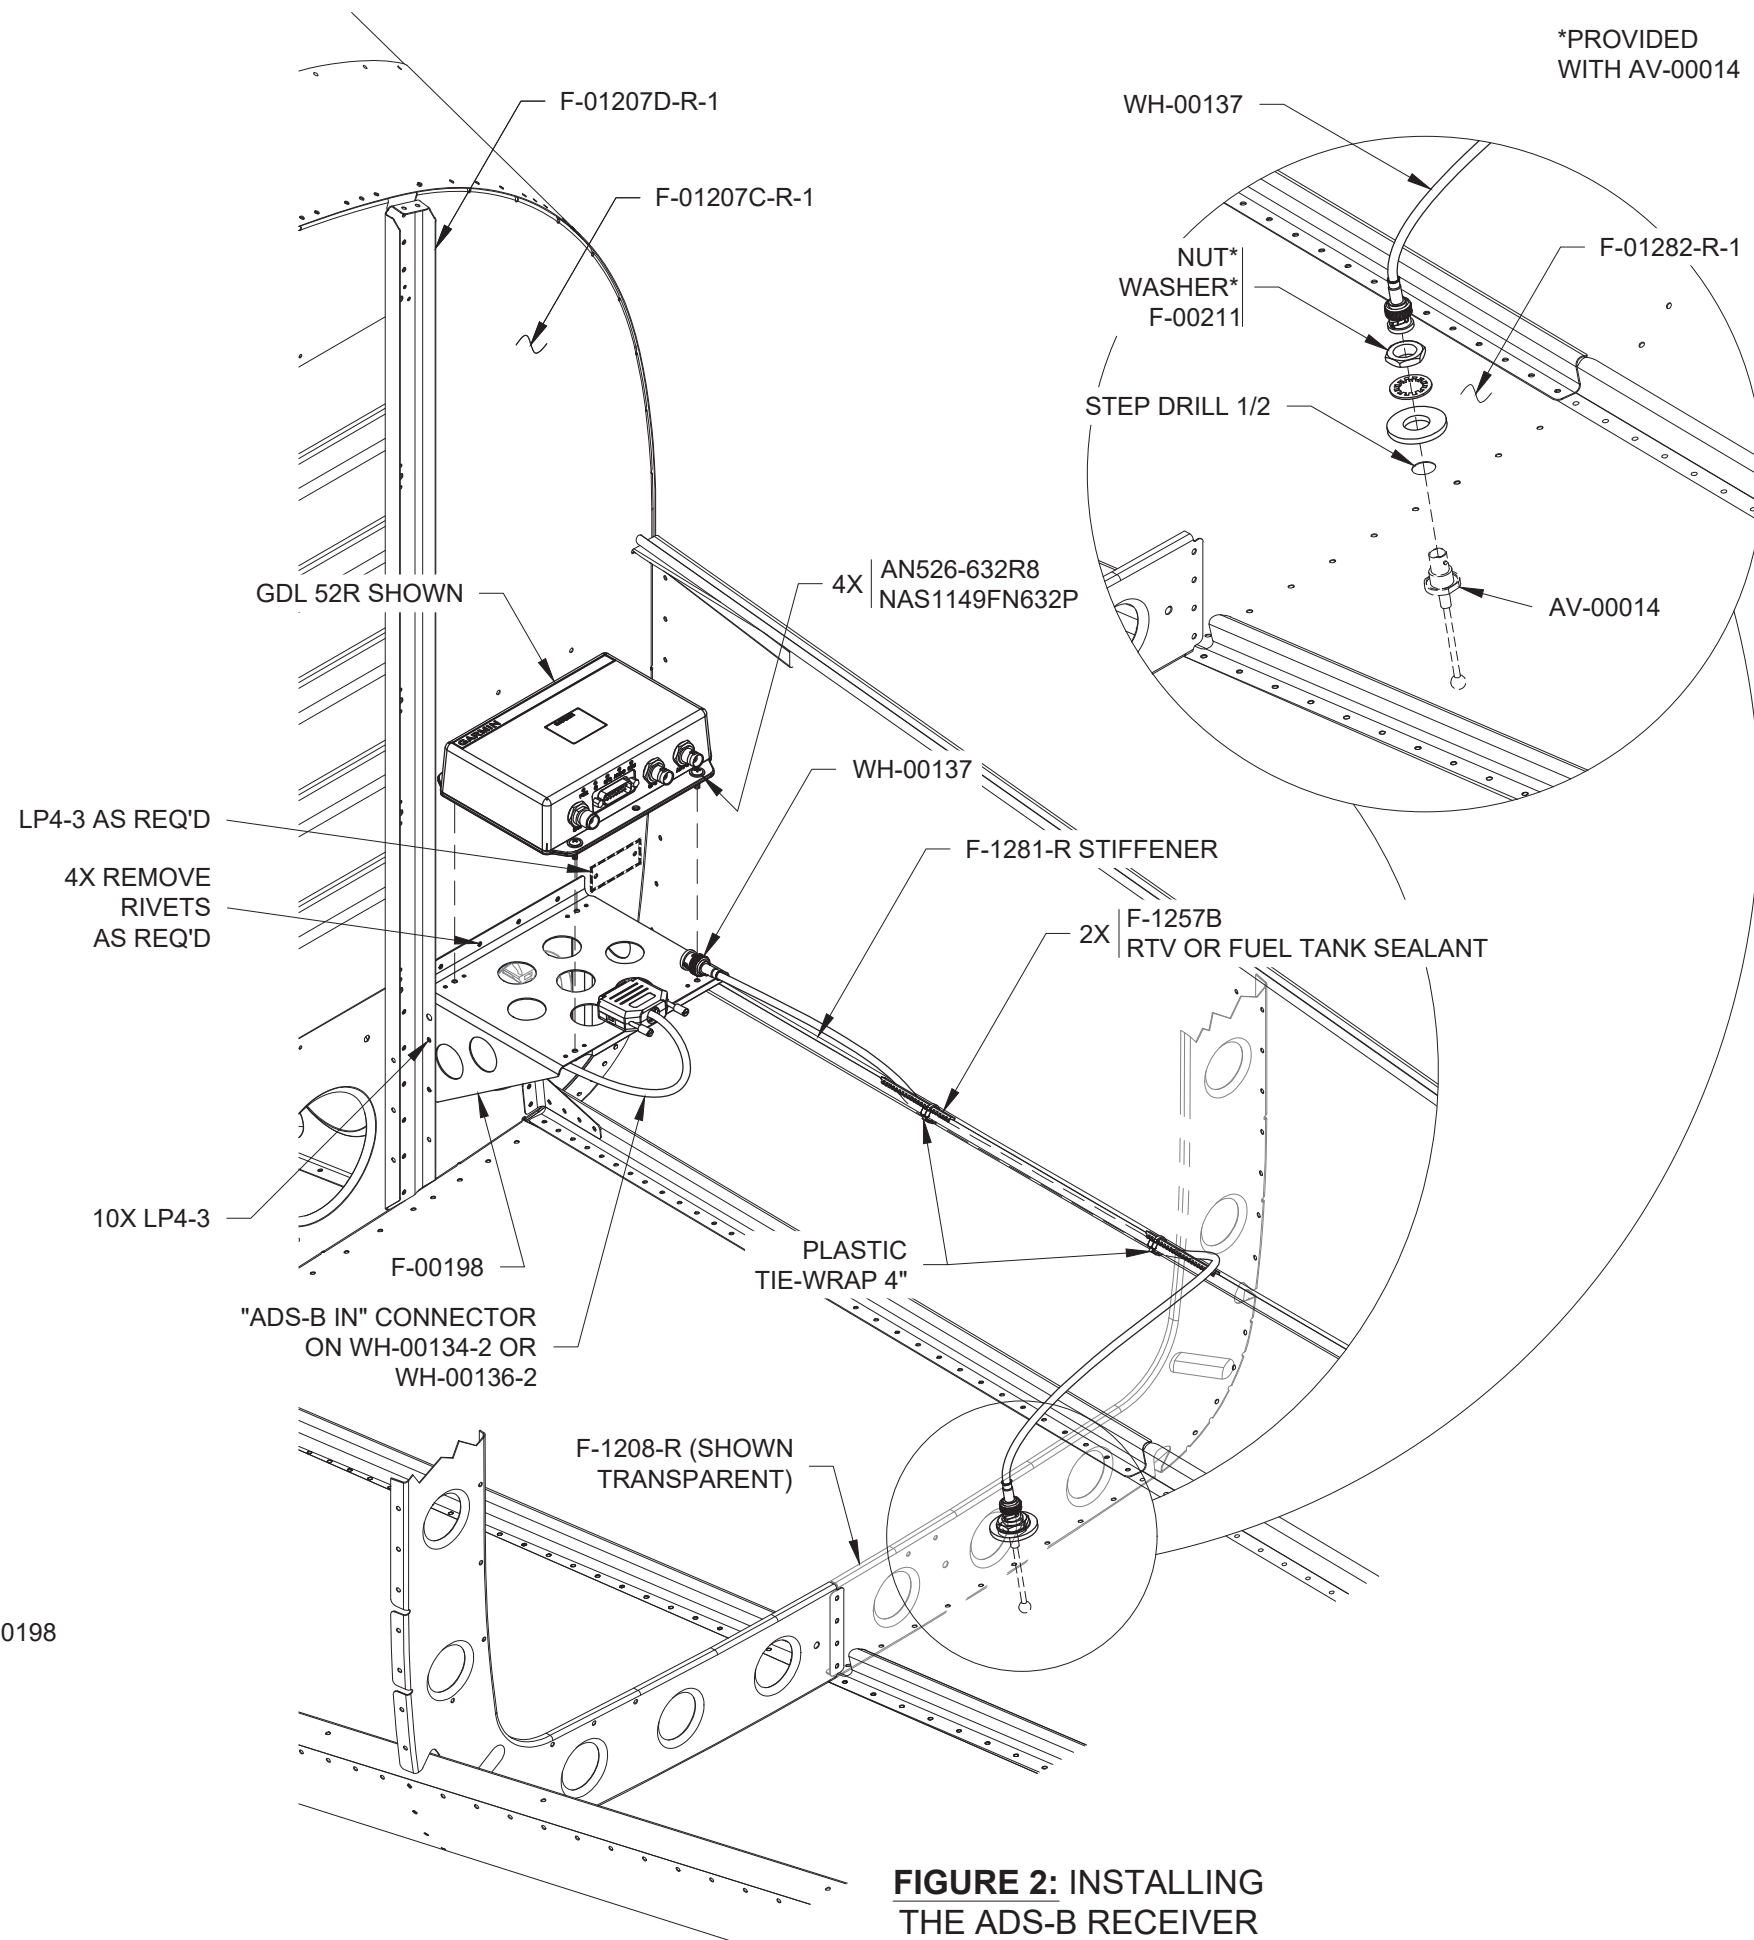

FIGURE 2: INSTALLING THE ADS-B RECEIVER
Step 2: If required, remove the four rivets on F-01207C-R-1 Baggage Bulkhead that will correspond to the upper flange of the F-00198. See Figure 2.
Step 4: Rivet the F-00198 to the F-01207C-R-1 and F-01207D-R-1 Baggage Bulkhead Channel as shown in Figure 2.
Step 5: If required, rivet the two holes in the F-01207C-R-1 to the right of the F-00198 as shown in Figure 2.
Step 6: Attach the GDL 52R to the F-00198 with the hardware as shown in Figure 2.
Step 8: Step drill 1/2 the hole in the F-01282-R-1 Bottom Right Skin as shown in the detail view of Figure 2.
Step 9: Install the AV-00014 as shown in the detail view of Figure 2 and connect the WH-00137 to the AV-00014.
Step 10: Route the WH-00137 forward along the stiffener in the F-1281-R Lower Skin and connect it to the "ADS-B" connection on the GDL 52R. See Figure 2.
Step 12: Per Figure 2, secure the WH-00137 to the F-1281-R by inserting tie-wraps through the holes in the stiffener. Ensure that the WH-00137 does not contact the F-1208-R Fuselage Frame.
To prevent chafing, place two strips of F-1257B "cat track" (MS21266-1N) between the WH-00137 and the F-1281-R stiffener where the WH-00137 enters/exits the stiffener as shown in Figure 2.